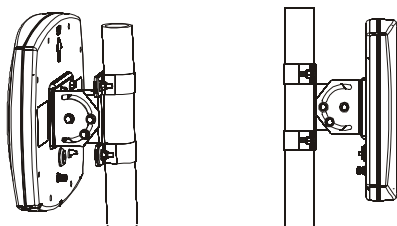

Figure 4.6 HPCU and DU Pipe Mount
1. Fasten the HPCU mount to the HPCU mounting pipe at the Carrier specified mounting height, using the provided clamps - see Figure 4.6 (same mounting hardware for both the HPCU and the DU).